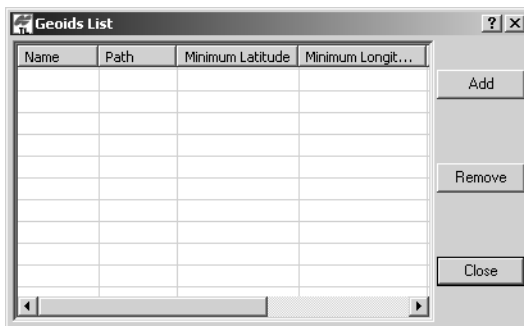

Figure 3-14. Geoids List Dialog Box
2. On the *Geoids List* dialog box, click **Add** (Figure 3-14).